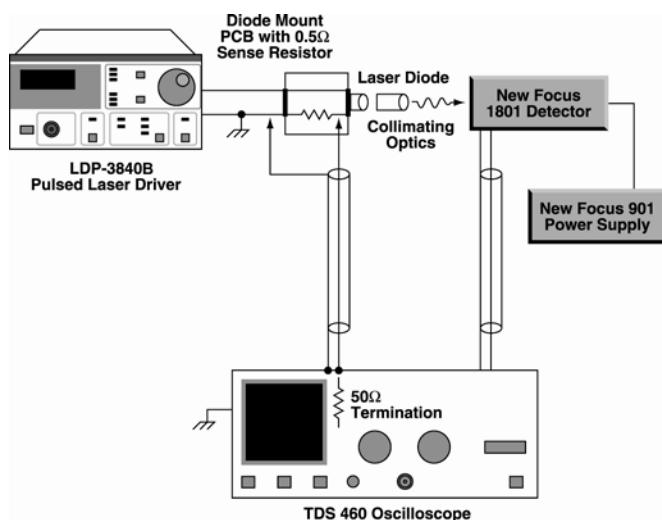

FIGURE 1 – Measurement Setup
2. Characterize the pulse response using the supplied PCB, which is preloaded 0.5 Ω for tuning. In our example, pulses were measured with a laser in a non-temperature controlled mount, as shown in Figure 1, and optically measured with a New Focus 1801 high speed detector.